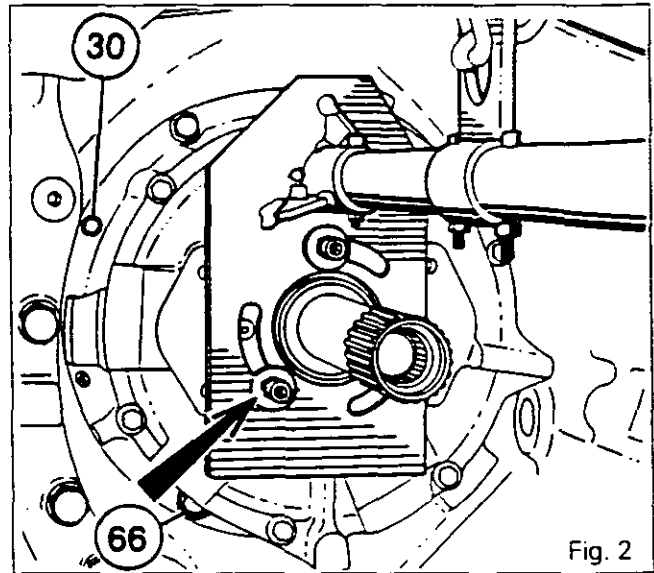

Fig. 2
6. Remove the clutch slave cylinder or cylinders (depending on the type) and install the sling 3376883M1 (see part J of Section 5 R02), using bolts of the correct length (Fig. 2).
7. Remove the eight bolts (30) (Fig. 2).
**Note: Do not remove the three bolts (66), dimensioned across flats 13 (Fig. 2).**